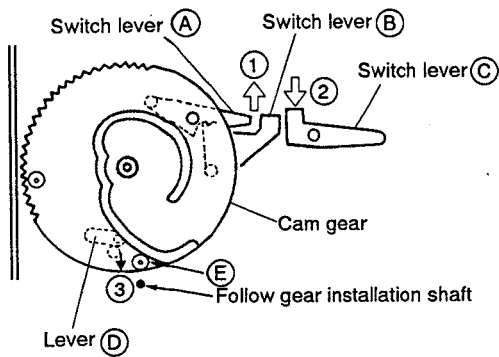

Fig. 11
② Move switch levers A and B (Fig.11) in the direction of arrow ① (SW is ON), switch lever C in the direction of arrow ② and lever D in the direction of arrow ③.
② Install the cam gear when the cam gear comes to the position as shown in Fig. 11.